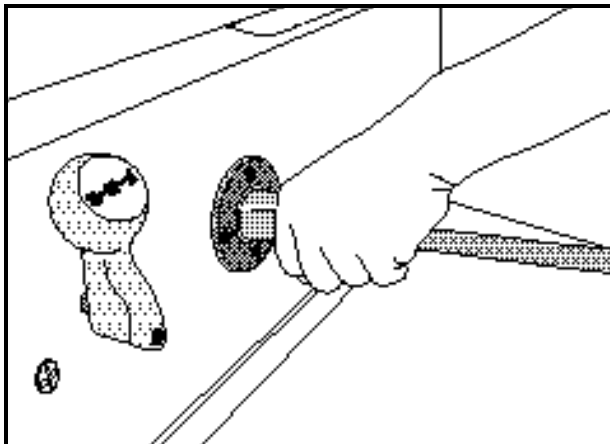

Figure 23
Insert the charger's DC plug into the vehicle's receptacle. The charger will turn on two to ten seconds later (**Figure 23, Page 29**).
- DO NOT ROCK OR BEND THE PLUG. TO CONNECT THE CHARGER PLUG TO THE VEHICLE RECEPTACLE, GRASP THE PLUG HANDLE AND PUSH THE PLUG STRAIGHT INTO THE RECEPTACLE (**SEE FIGURE 23**).